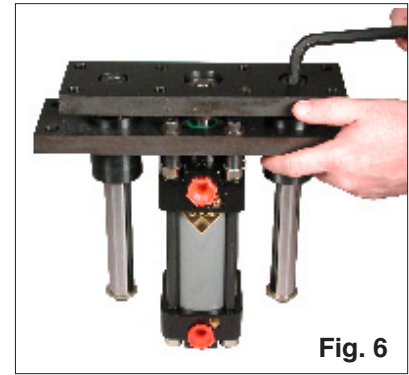
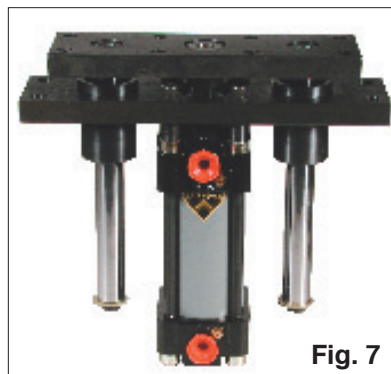

Fig. 6
Fig. 7
8. Alternate tightening each bolt with a 12 mm allen wrench until both are secure (Fig. 6). The HP Two Post Direct Lift is now ready for use (Fig. 7).